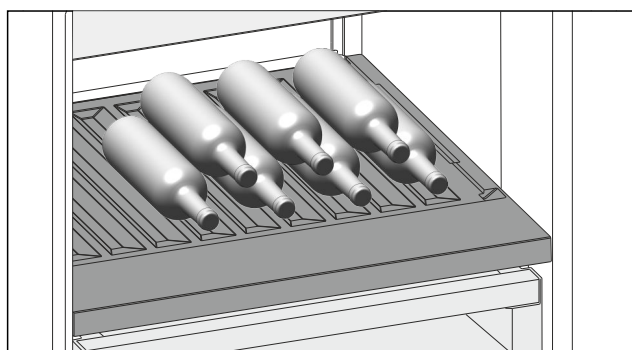

Fig. 146 Example illustration
- Place bottles in the back row with their bases against the back wall. (see Fig. 146)